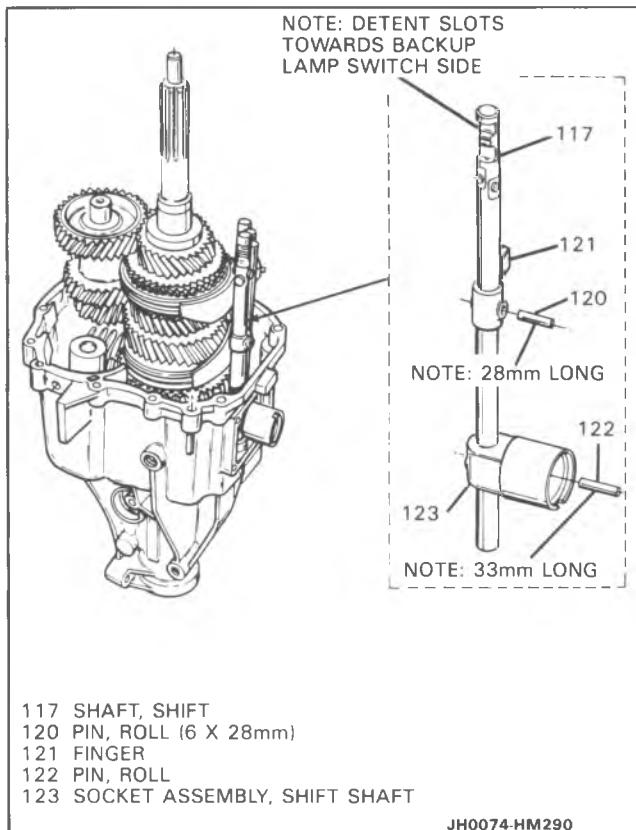

Figure 93 Shift Shaft Install
7. Shift shaft (116), finger (121) and shift shaft socket assembly (123) (Figure 93).
8. Roll pin (120) (28mm) and roll pin (122) (33mm).
9. Three detent balls (323) and three springs (324) (Figure 93).
10. Detent spring cover (325) and two bolts (236).